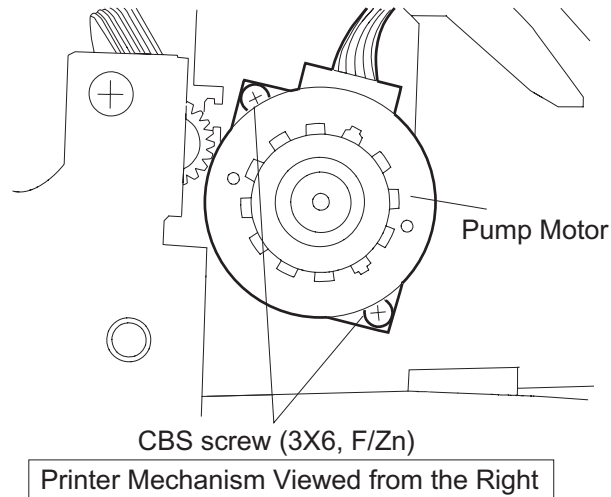

Figure 3-61. Removing the Screws Securing the Pump Motor
- ❑ When attaching the I/S frame to the right frame, be sure to mount the screw on the front first. Otherwise, the frame will bend. (See Figure 3-61.)